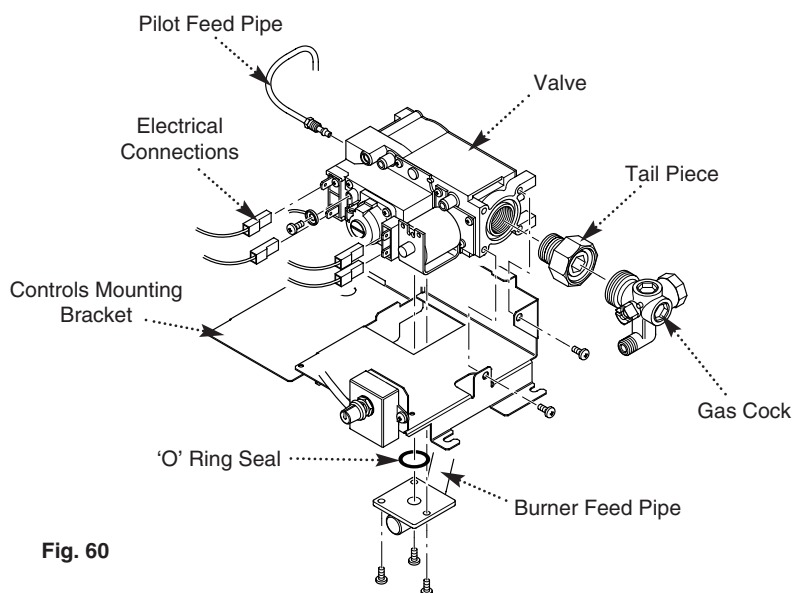

Fig. 60
3. Disconnect the electrical connections from the valve, noting the position of each wire (Fig. 60).
4. Remove the three screws holding the burner feed pipe to the valve, being careful not to lose or damage the "O" ring seal (Fig. 60).
5. Undo the pilot feed pipe nut from the valve (Fig. 60).
6. Remove the two screws holding the valve to the controls mounting bracket adjacent to the union nut and tailpiece (Fig. 60).
7. Remove the valve from the controls mounting bracket (Fig. 60).
8. Remove the tailpiece and union nut from the original valve and fit to the new one (Fig. 60).